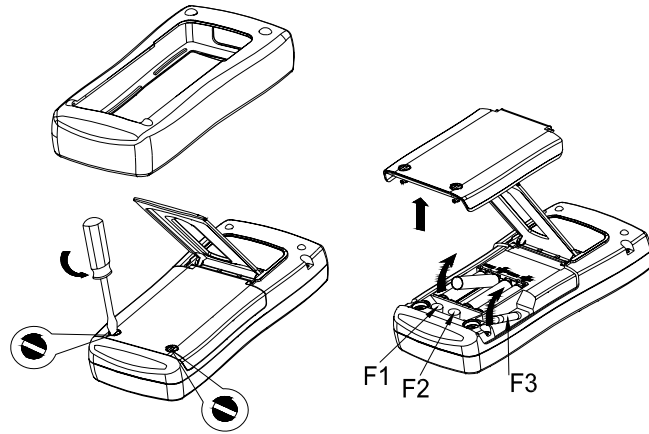

Figure 20 Replacing batteries and fuses
Step 2: Remove the protector as shown in Figure 20. With a standard blade hand screwdriver, turn each battery door screw a quarter counterclockwise to remove the battery door.